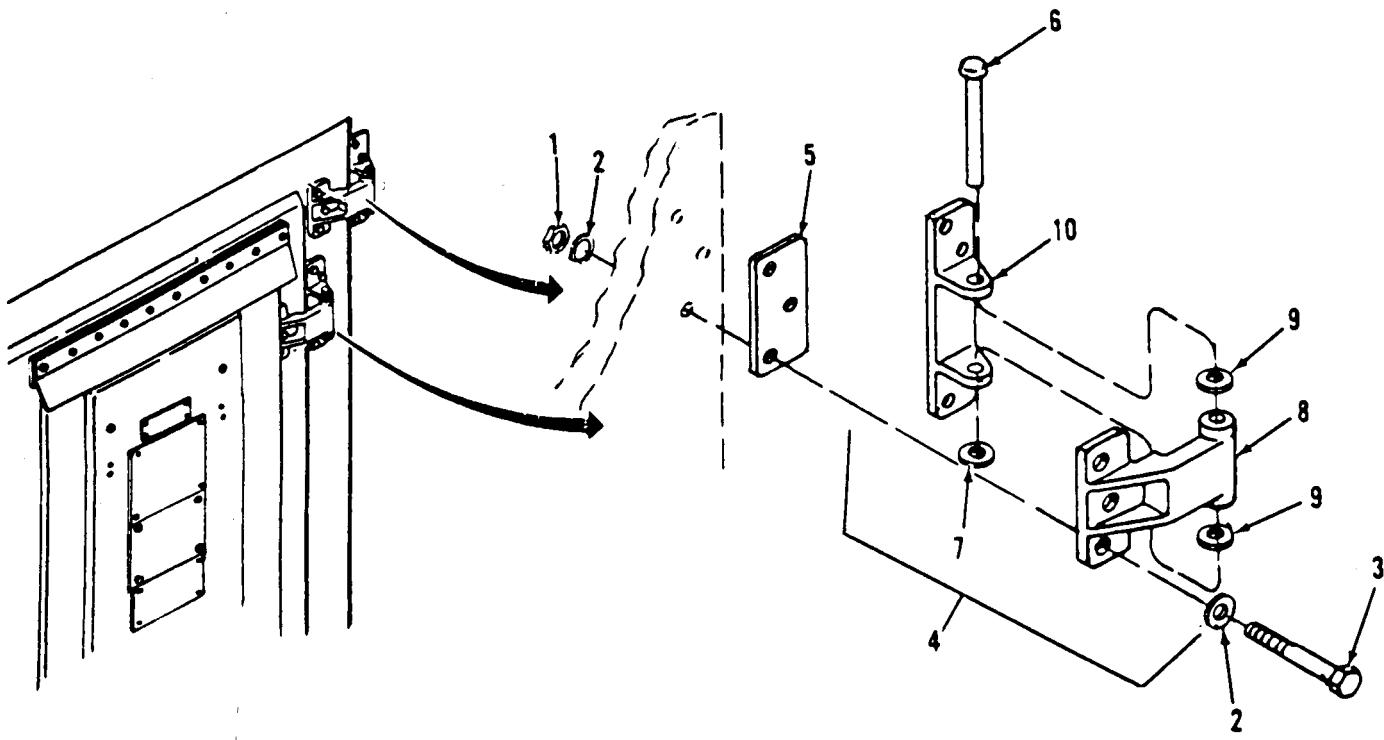

Figure 3-23. Hinge Assembly Replacement.
*Inspect.* (Figure 3-23)
- (1) Inspect for damaged or non-functioning hinge assembly,
- (2) Inspect for missing attaching hardware.